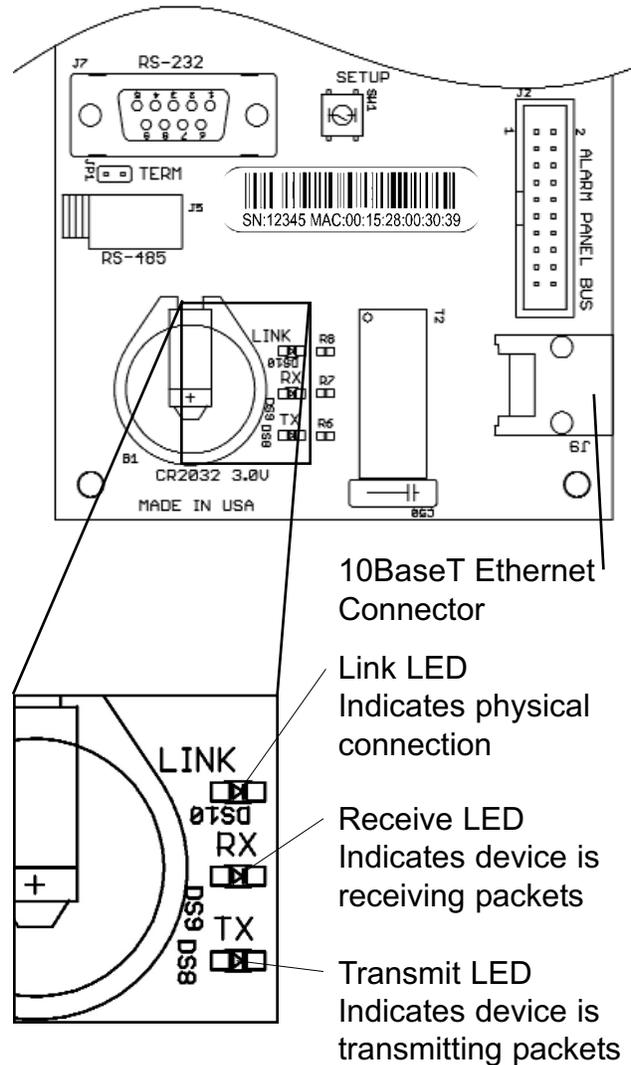

Figure 51 Ethernet status LEDs
2. Verify the green LINK LED on the annunciator module illuminates (Figure 51).